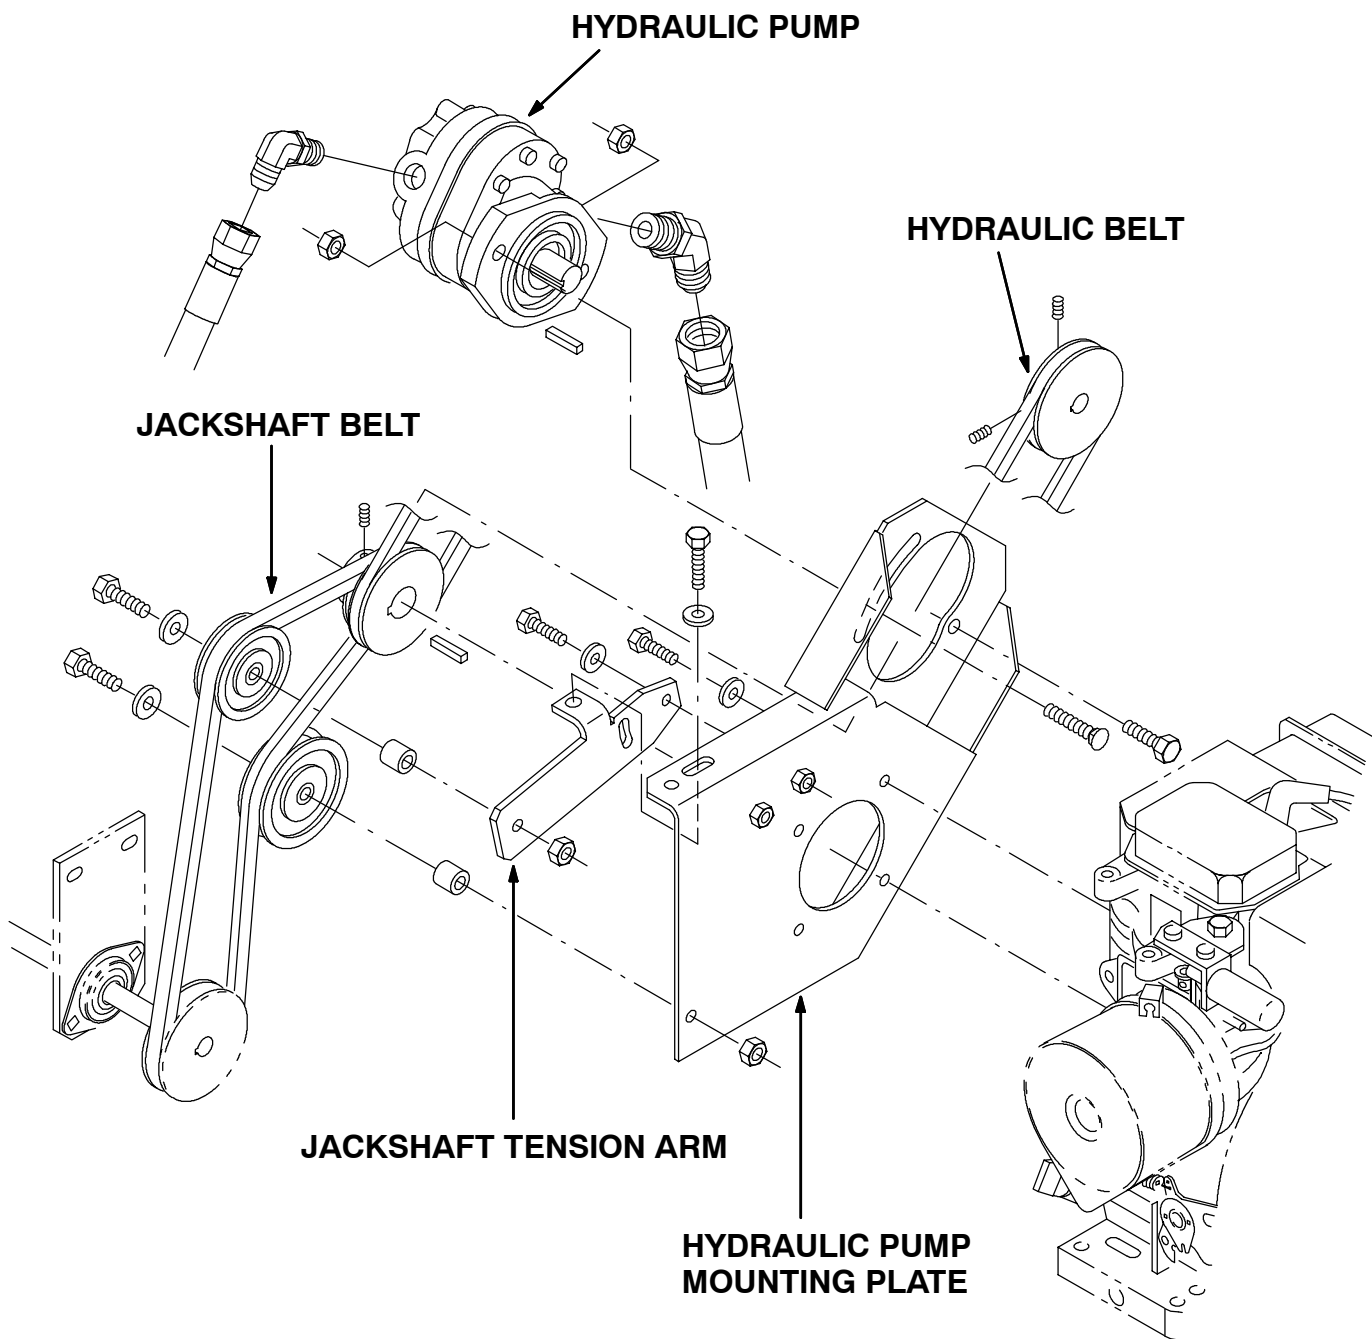

FIG. 4 - HYDRAULIC PUMP AND BELTS GROUP
5. Loosen the tension on the jackshaft belt, and remove the belt from the engine. (Refer to FIG. 4)
8. Loosen the hydraulic pump belt with a 9/16 wrench on the carriage bolt, and a 17mm wrench on the pivot bolt. (Refer to FIG. 4)
12. Remove the jackshaft tension arm. (Refer to FIG. 4)
13. Remove the idler pulley from the machine with a 9/16 wrench. (Refer to FIG. 4)
(Refer to FIG. 4,6 and 9)